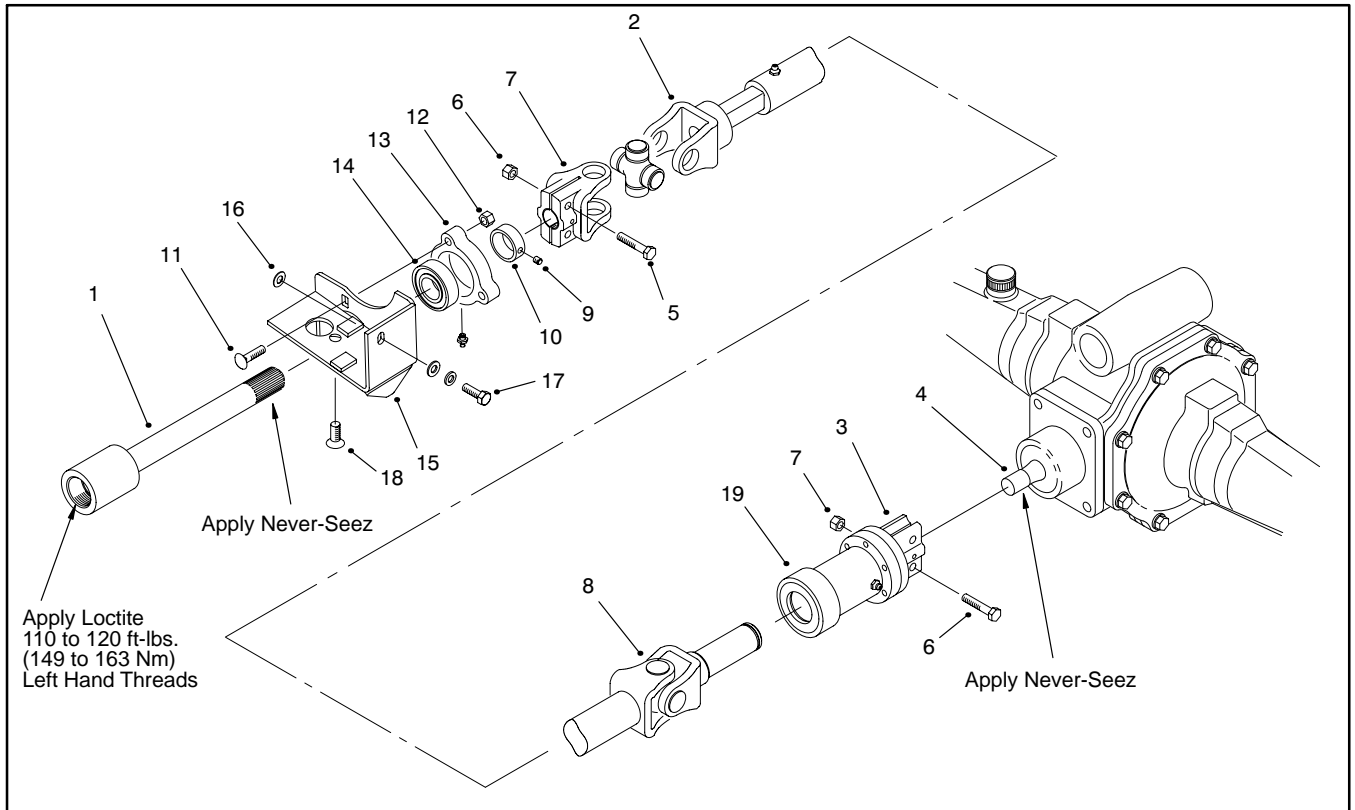

Figure 7
2. If front axle or traction shaft will be removed for repairs, loosen traction shaft before removing the drive shaft. Use an open end wrench on the square slip yoke shaft and turn the shaft in a clockwise (left hand threads) direction (Fig. 7).
5. Loosen capscrews and locknuts securing end yoke to traction shaft, and slide drive shaft assembly off traction shaft (Fig. 7).
- A. Loosen the set screws in the bearing locking collar. Use a hammer and punch to loosen the collar by rotating it in a counterclockwise direction (Fig. 7).
- B. Remove the carriage bolts and locknuts securing the bearing support to the bracket. Remove the bearing and bearing support (Fig. 7).
- D. Remove bearing bracket (Fig. 7). Record number of shims used between side of bracket and transmission.
3. Slide clutch end of drive shaft assembly onto shaft. Tighten axle coupling capscraws and locknuts (Fig. 7).
4. Slide end yoke of drive shaft assembly onto traction shaft and tighten end yoke capscraws and locknuts (Fig. 7).
D. Tighten locking collar to traction shaft by carefully rotating it in a clockwise direction with a hammer and punch. Tighten collar set screws (Fig. 7).